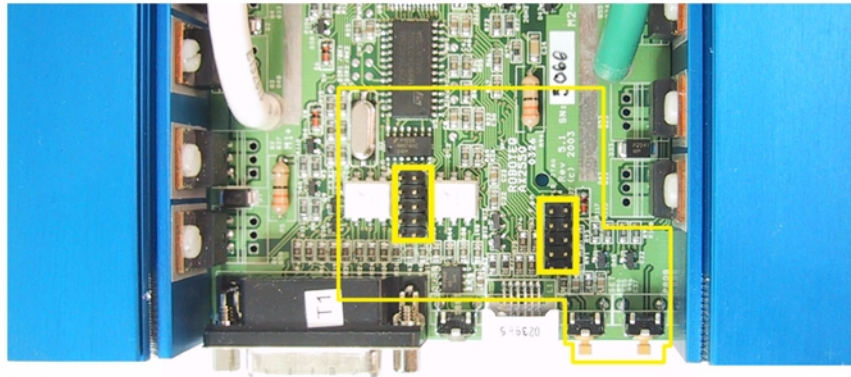

FIGURE 43. Position of Encoder Module on Controller's main board
- 2- Carefully insert the encoder module on top of the two headers present on the controller's main board and shown in Figure 43. Beware that the two mating connectors are precisely aligned.